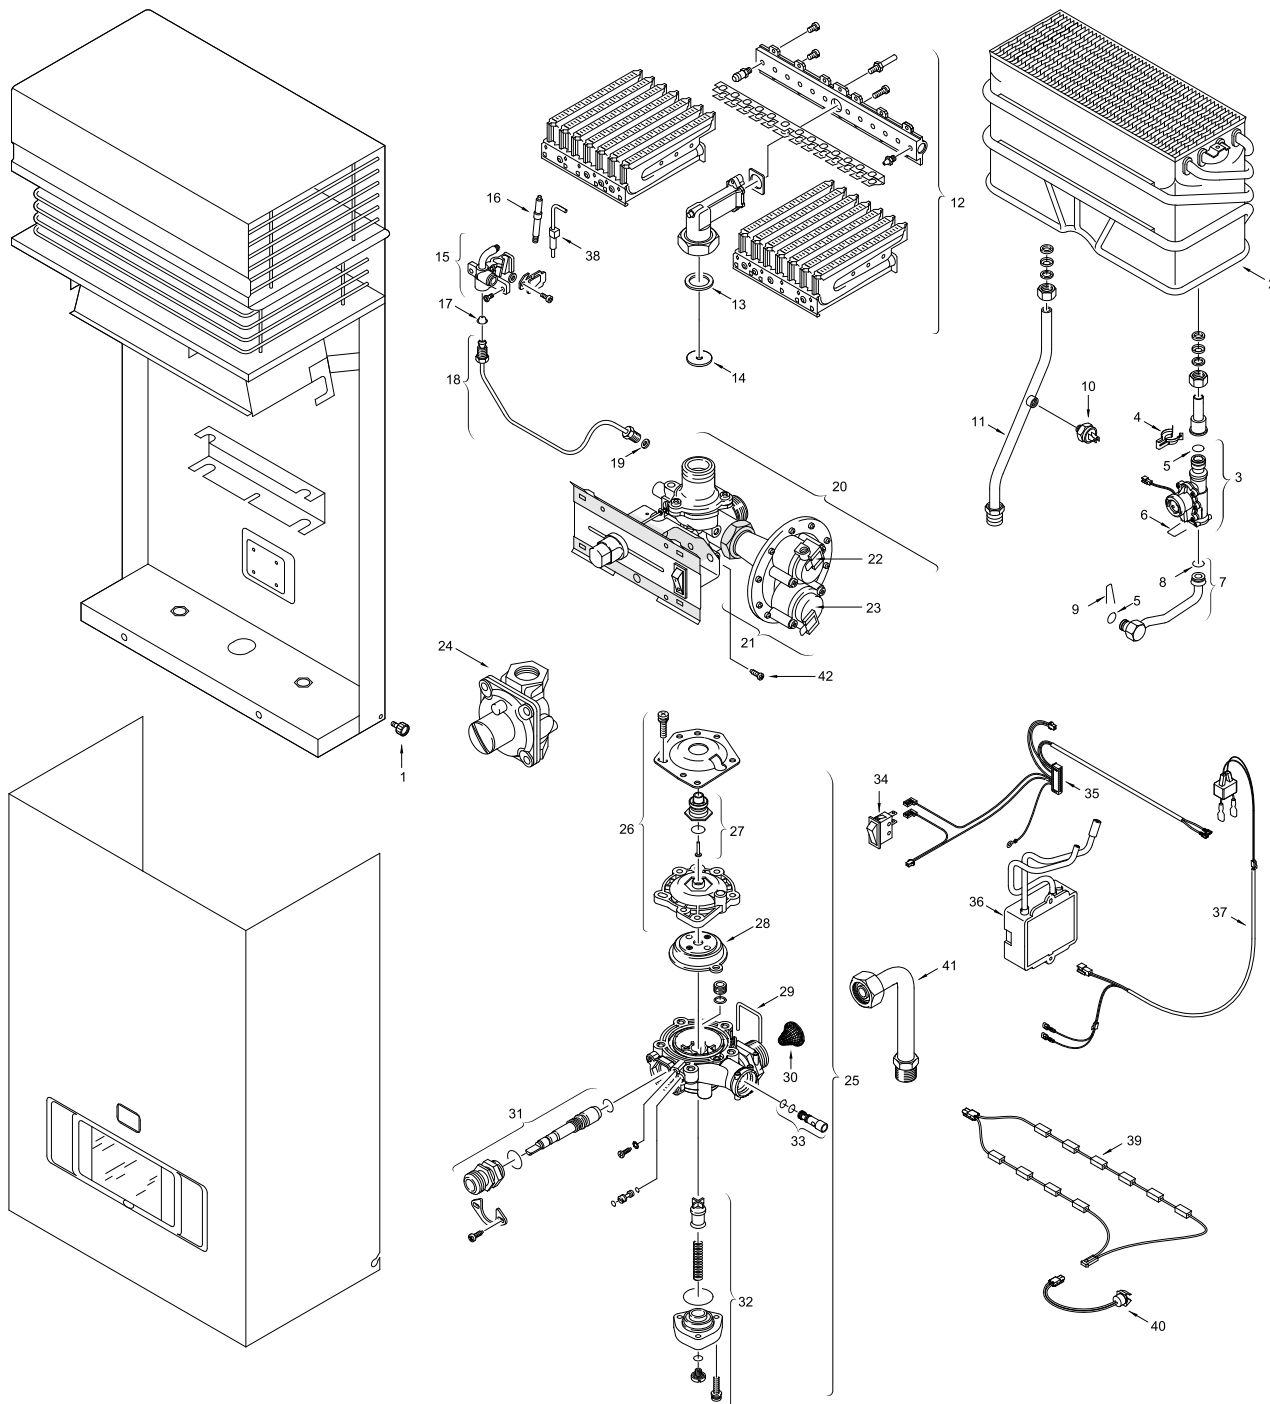

Fig. 14 Components Diagram
A more detailed instruction is available on our website at www.boschpro.com. Shut off all water to the unit and disconnect water pipe going to the back of the water valve. Disconnect water pipe going to heat exchanger by removing pin and pulling pipe out. Loosen two set screws at the base of the gas valve and drop the water valve down. Separate the two halves by removing 5 screws on the top of the water valve. Apply lithium or faucet and valve grease to the pushrod (see Fig 14, pos. 31). Inspect and clean the venturi (see Fig 14, pos. 49).